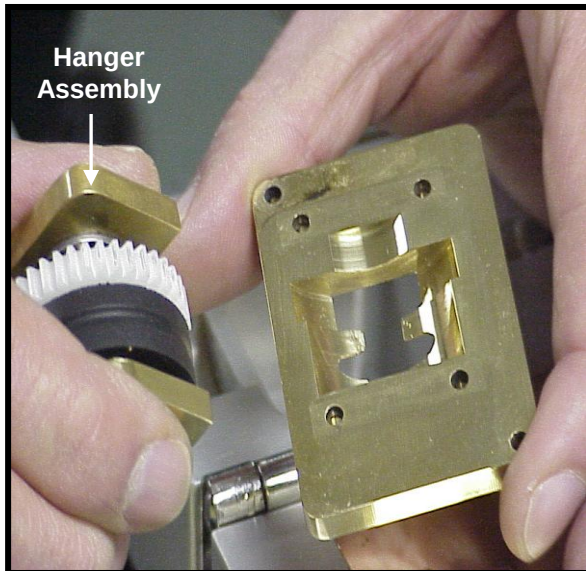

Figure 39
13.5.2.4 Separate Bearing Hanger Assembly from the Upper Brass Plate. **See Fig. 39.**